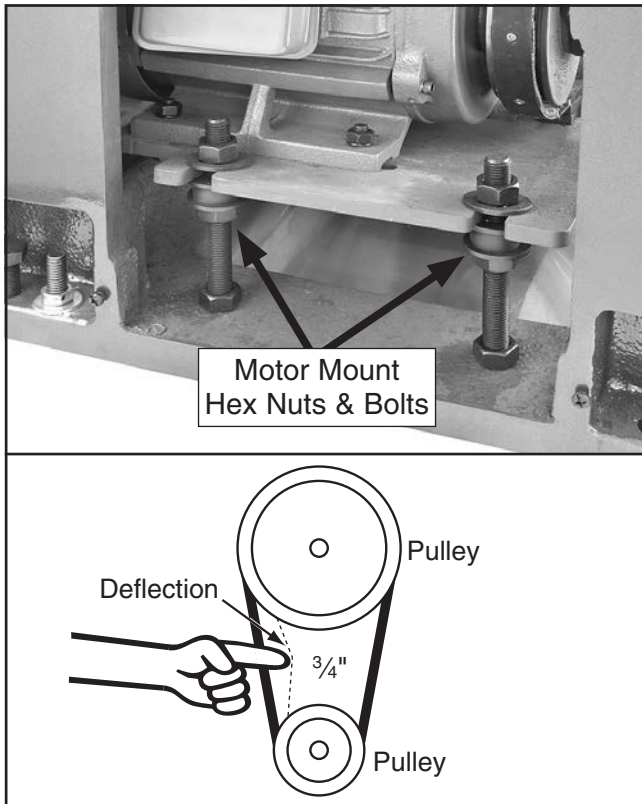

Figure 123. Adjusting V-belt tension.
- Adjust the hex nuts on the motor mount bolts shown in **Figure 123**, until there is approximately $\frac{3}{4}$ " deflection of the V-belts when moderate pressure is applied midway between the pulleys.